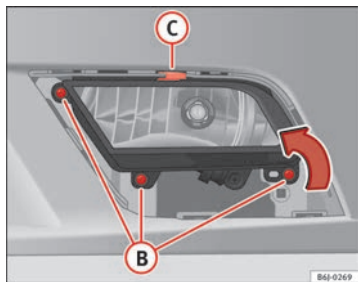

Fig. 167 Fog lights
- Remove the bolts (3x) ⇒ fig. 167 **B** to remove the fog light.
- Remove the metal clip situated on the upper part of the fog light pulling towards the exterior of the vehicle ⇒ fig. 167 **C**. ■